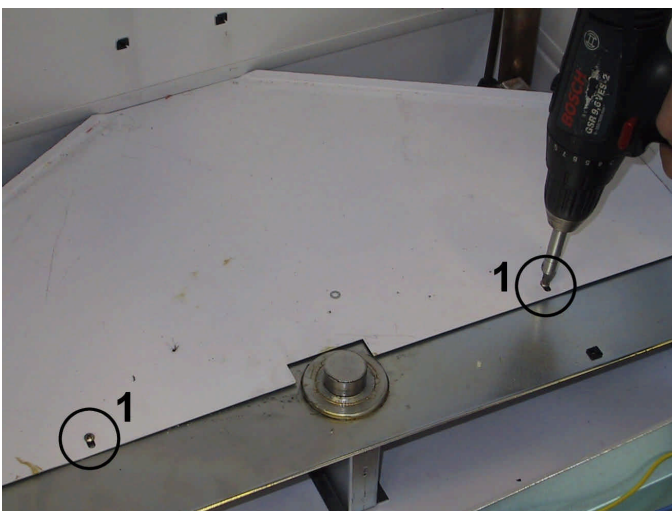

Figure 52
4.2.2 EVAPORATOR REPLACEMENT (28)
Before replacement it's necessary to remove the shelves' support shaft (61), as indicated in par. 2.3.1.4., the motor fans support (upon disconnecting the fan motor cables), as indicated in par. 2.3.1.2., the back panel of the inner tank as shown in par. 2.3.1.5. and the evaporator cover by unscrewing the two screws indicated as "1" in Fig. 52.